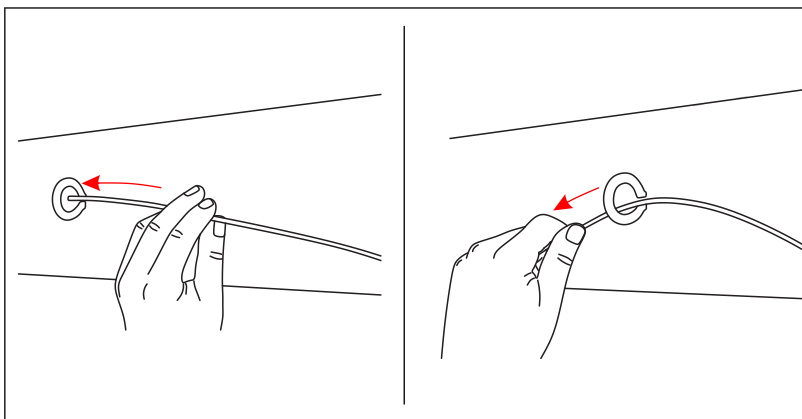

Fig. 2
5. Insert one end of the cable into the eye pads/screws (Fig.2).